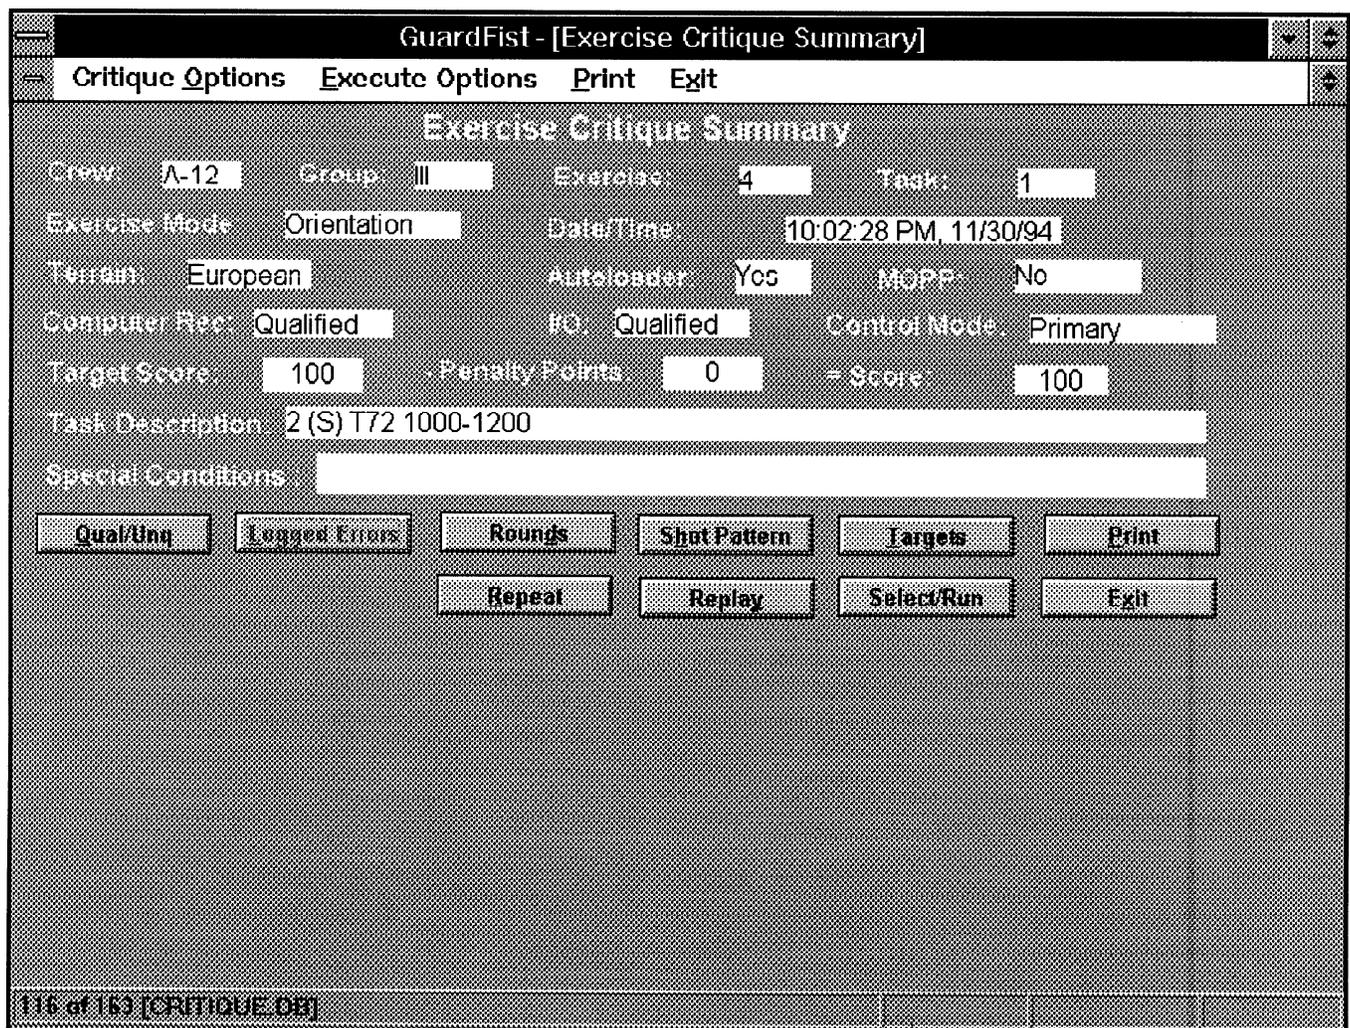

Figure 2-114. Exercise Critique Summary Sheen
2.6.9 Exercise Critique Summary Screen. After the completion or termination of each task simulation and each linked-task exercise, the Exercise Critique Summary Screen, Figure 2-114, displays. This is a first of a series of screens providing a critique of the crew's training performance. It provides a summary of the crew's performance during the simulation and is used to access other after-simulation screens. This screen also displays by selecting Critique at the Logged Errors, Rounds Fired, Shot Pattern, Targets, and Exercise Summary Screens. The following data displays: